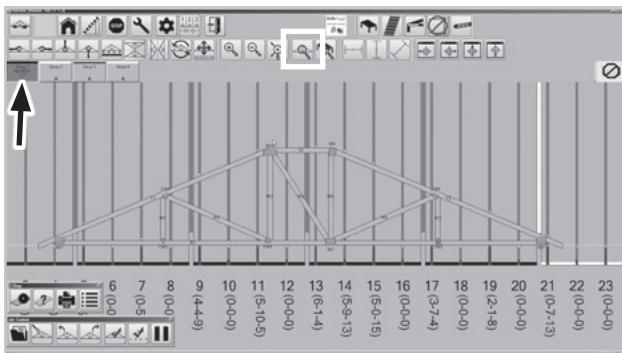

Figure 43
4. Zoom to select truss: select a group then click on icon (4) to display the truss on the selected group (Figure 43).